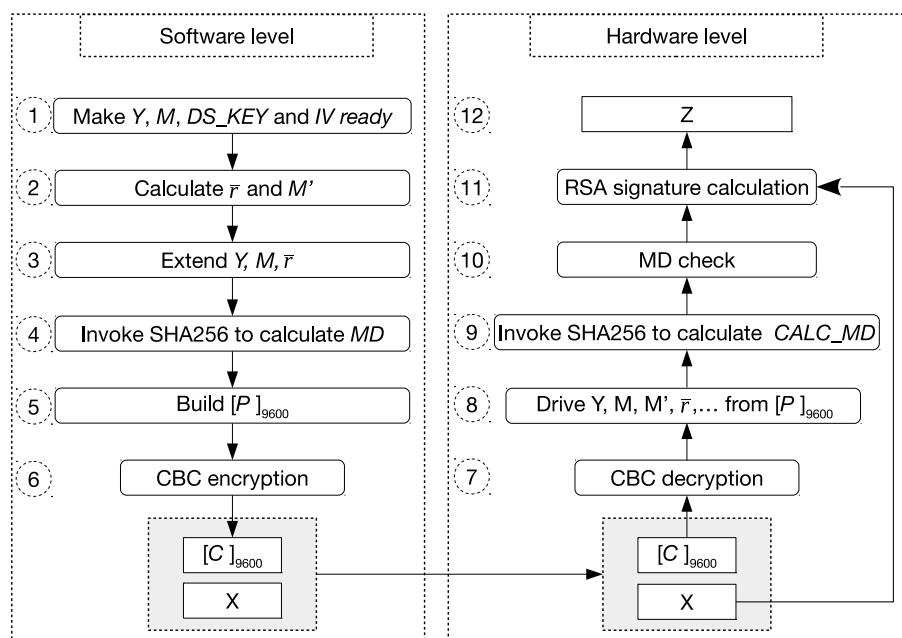

Figure 22-1. Software Preparations and Hardware Working Process
If users want to use the DS module for digital signature, the software and hardware must work closely to implement this successfully, and the software needs to do a series of preparations, as shown in Figure 22-1. The left side lists preparations required by the software before the hardware starts RSA signature calculation, while the right side lists the hardware workflow during the entire calculation procedure.
1. The software preparation (left side in the Figure 22-1) is a one-time operation before any signature is calculated, while the hardware calculation (right side in the Figure 22-1) repeats for every signature calculation.
You need to follow the steps shown in the left part of Figure 22-1 to calculate  $C$ . Detailed instructions are as
#### 1. Decryption: Step 7 and 8 in Figure 22-1
The decryption process is the inverse of Step 6 in figure 22-1. The DS module will call AES accelerator to decrypt  $C$  in CBC block mode and get the resulted plaintext. The decryption process can be represented by  $P = AES\text{-}CBC-DEC(C, DS\_KEY, IV)$ , where  $IV$  (i.e.,  $[IV]_{128}$ ) is defined by you.  $[DS\_KEY]_{256}$  is provided by HMAC module, derived from  $HMAC\_KEY$  stored in eFuse.  $[DS\_KEY]_{256}$ , as well as  $[HMAC\_KEY]_{256}$  are not readable by users.
#### 2. Check: Step 9 and 10 in Figure 22-1
The DS module will perform two checks: MD check and padding check. Padding check is not shown in Figure 22-1, as it happens at the same time with MD check.
### 3. Calculation: Step 11 and 12 in Figure 22-1